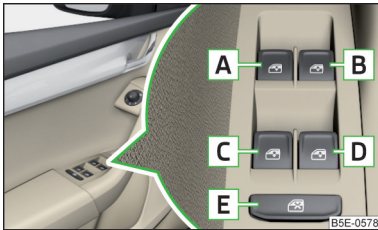

Fig. 46
Buttons for window levers » Fig. 46
➤ Press button **E** » Fig. 46.
After the driver's or passenger's door is opened the operation of the window is only possible with the button **A** » Fig. 46, in which case they have to be pressed or pulled for approx. 2 seconds.
- Hold button **A** » Fig. 46 on page 62 in the opening position.
- Hold button **A** » Fig. 46 on page 62 in the closing position.